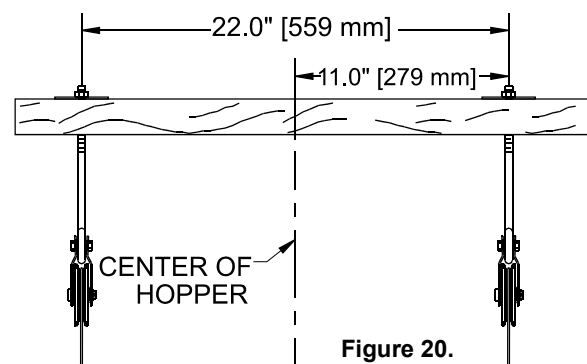

Figure 20.
8. Install two pulleys to either a 2" x 8" [50x200 mm] board that will span at least 3 rafters or a 3/8" [9.5 mm] thick steel plate welded to two pieces of angle iron that are long enough to span at least 2 rafters. Install the pulleys directly above the feeder line where the hopper is to be located. The pulleys should be spaced 22" [559mm] apart (11" [279 mm] from the center of the hopper in both directions), see **figure 20**.